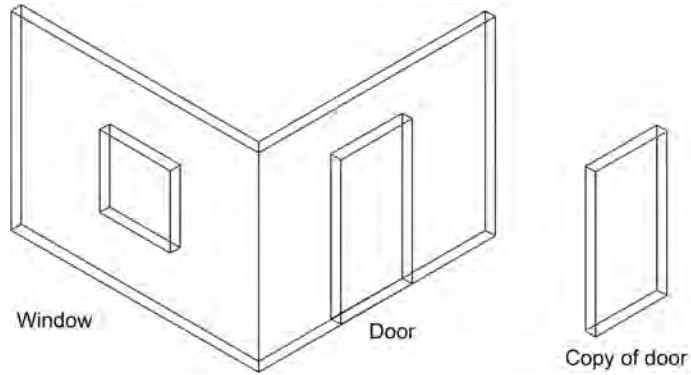

FIGURE 23.14
Step 5. After copying the door, insert it carefully into the wall, making sure it is lined up correctly (midpoint of bottom front of door to midpoint of bottom front of wall). Then, insert the window in a similar manner and raise it up (using Ortho) to roughly the halfway point in the wall. You may have your own method of doing this as well, but either way, Figure 23.14 shows what you should have as a result.